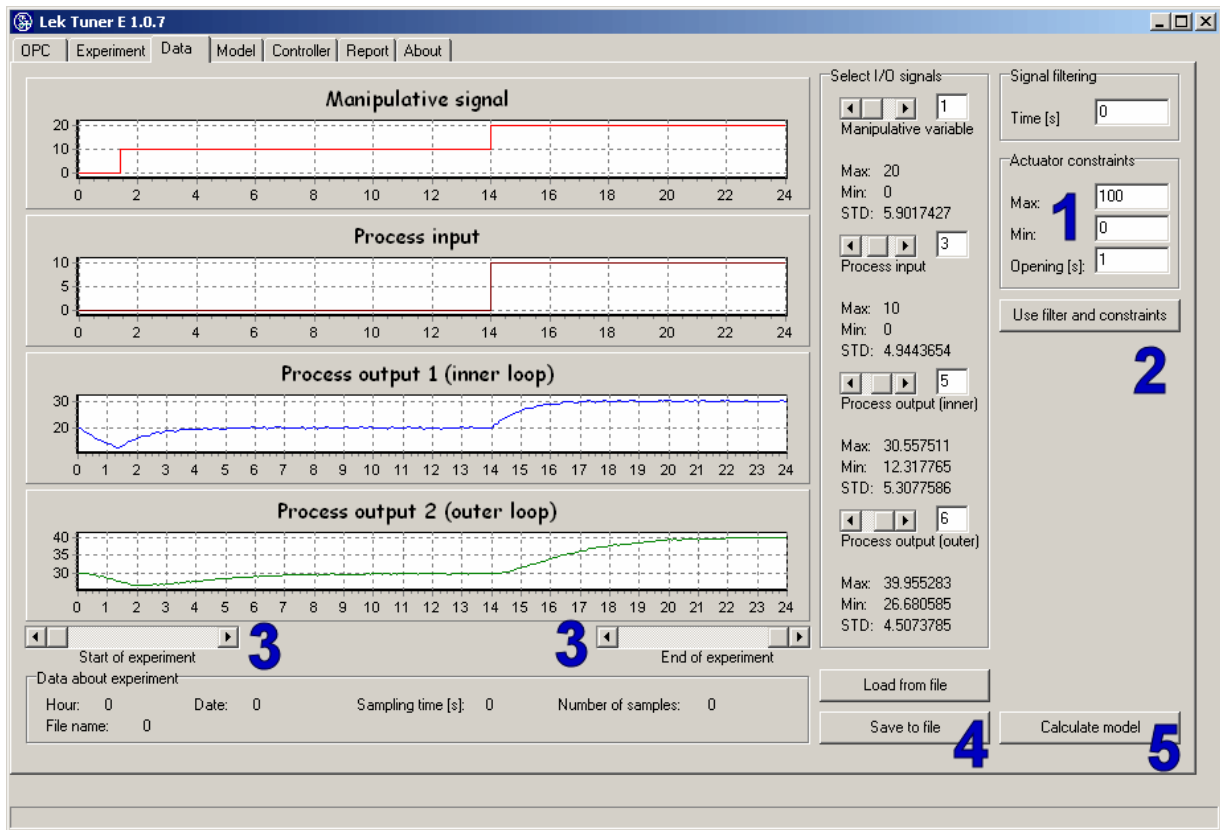

Figure 14. Window “Data” after termination of experiment.
Window “Data” (Figure 14) is opened automatically after termination of experiment. Here actuator limits can be set (1) and used (2) if they were met during the experiment. Data is trimmed by using slider for selecting begin and end of experiment (3). Note that start should be set before change of manipulative variable. The process model is calculated by pressing button “Calculate Model” (5).